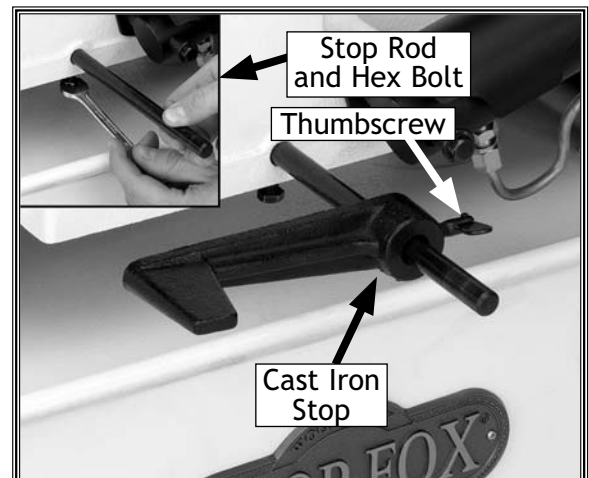

Figure 15. Installing the cast iron stop.
1. Insert the stop rod approximately 3/4" into the saw until the end of the rod is just flush with the inside casting surface (see **Figure 15**).
2. Use a 12mm wrench, and tighten the hex bolt (see **Figure 15**).